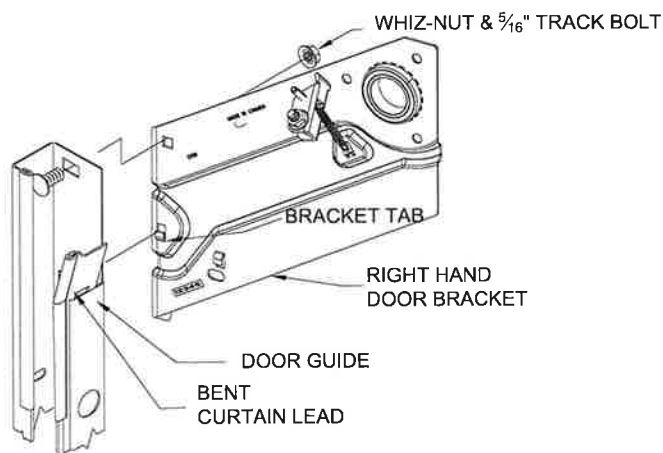

Figure 2.
4.1 Position the bracket tab on each bracket into the slot in the side guides and slide upward into place. Bolt the left and right door brackets to the door guides with one (1) 5/16" track bolt and whiz nut in each guide. (See Figure 2) **MAKE CERTAIN**